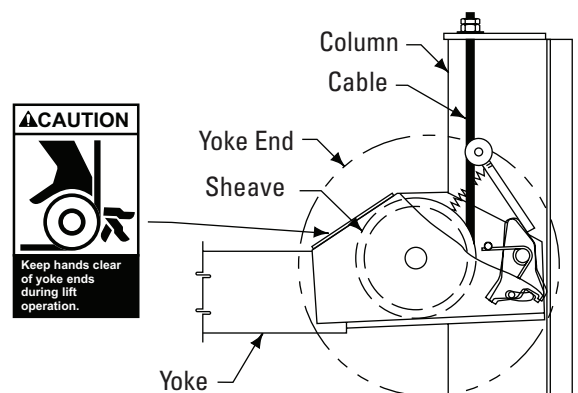

Fig. 4
**⚠ CAUTION** Keep hands clear of yoke ends while the lift is being raised or lowered, Fig. 4.